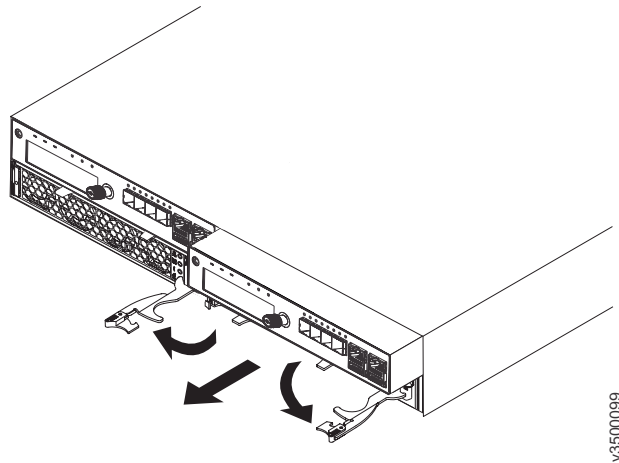

Figure 12. Removing a node canister
1. If the canister is already installed in the enclosure, remove it as shown in Figure 12.